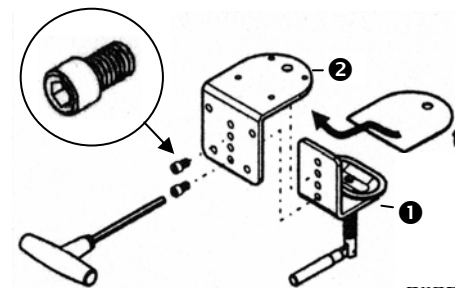

Figure 11: VESA Arm Clamp
- 2) Secure cranking unit (#1) to bracket (#2) with at least two bolts (Figure 11). The use of bolts and bolt position depends on thickness of desk. Fully secure bolts with included “T” type hex key.